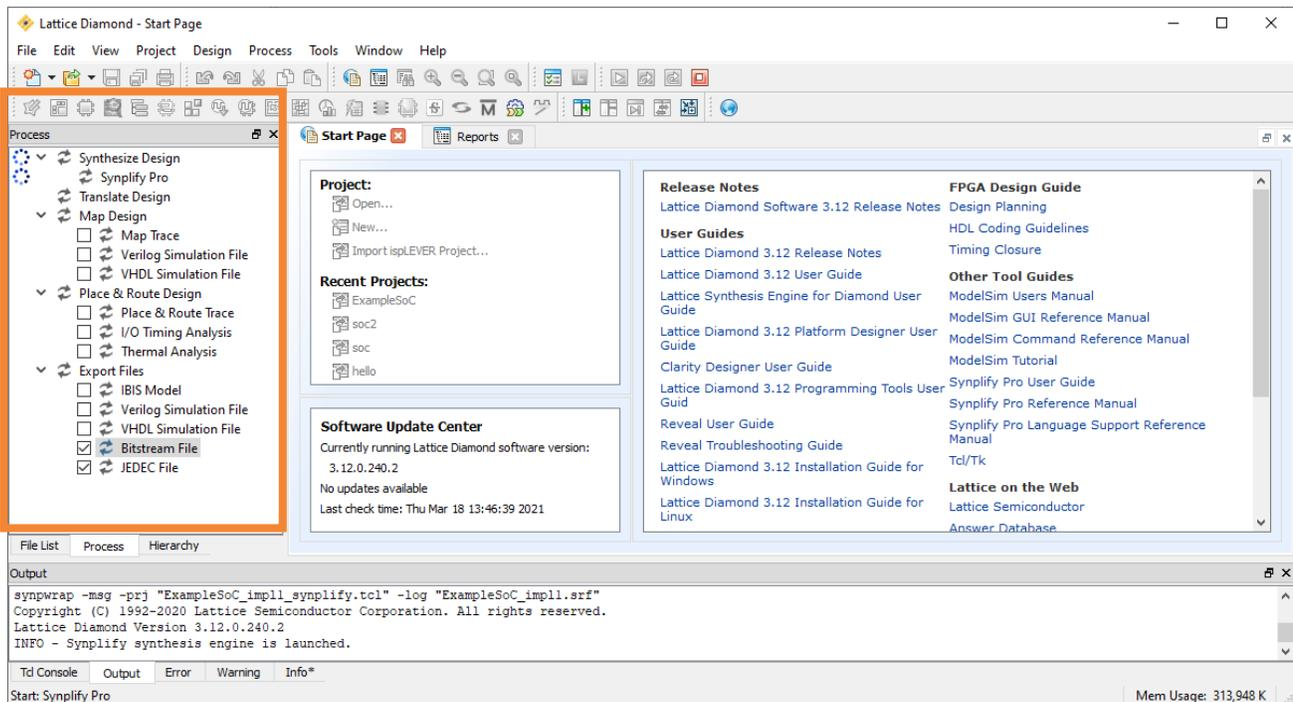

Figure 4.6. Generate Programming File
3. Switch to **Process** view of the Diamond project and make sure **Bitstream File** or **JEDEC File** is checked in the **Export Files** section (Figure 4.6).